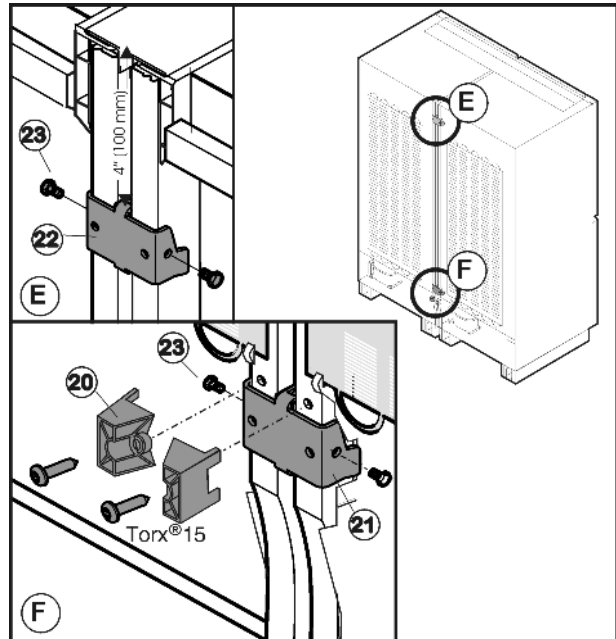

Fig. 45
- Remove the spacers Fig. 45 (20) from the lower reverse side of the appliances.
- Position the upper connecting piece and Fig. 45 (23)screw Fig. 45 (21) on from the side.
- Position upper connecting piece Fig. 45 (22) and screw Fig. 45 (23) on from the side.
- Tighten the screws Fig. 45 (23).